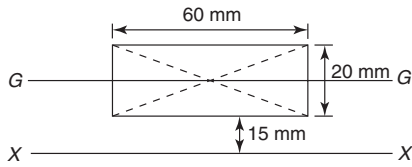

Figure 7.41
2. The second moment of area about axis GG of the rectangle shown in Figure 7.41 is:
3. The second moment of area about axis XX of the rectangle shown in Figure 7.41 is:
4. The radius of gyration about axis GG of the rectangle shown in Figure 7.41 is:
5. The radius of gyration about axis XX of the rectangle shown in Figure 7.41 is: